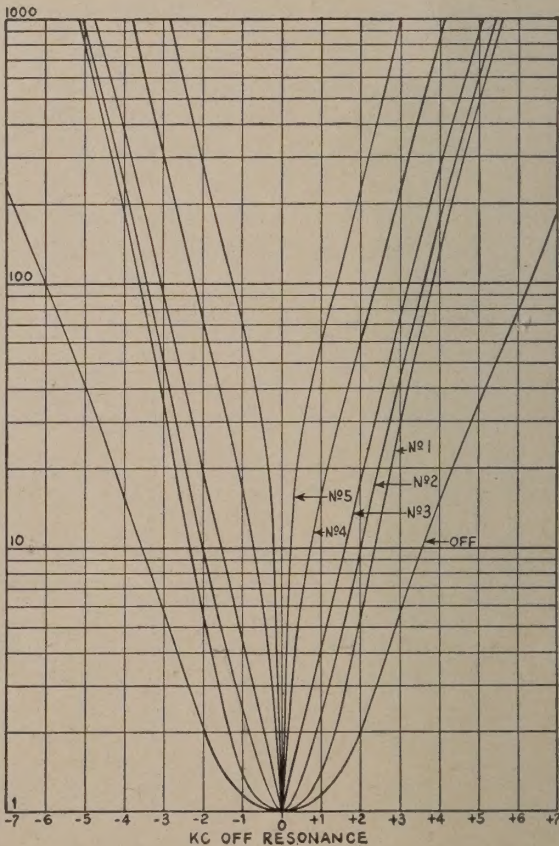
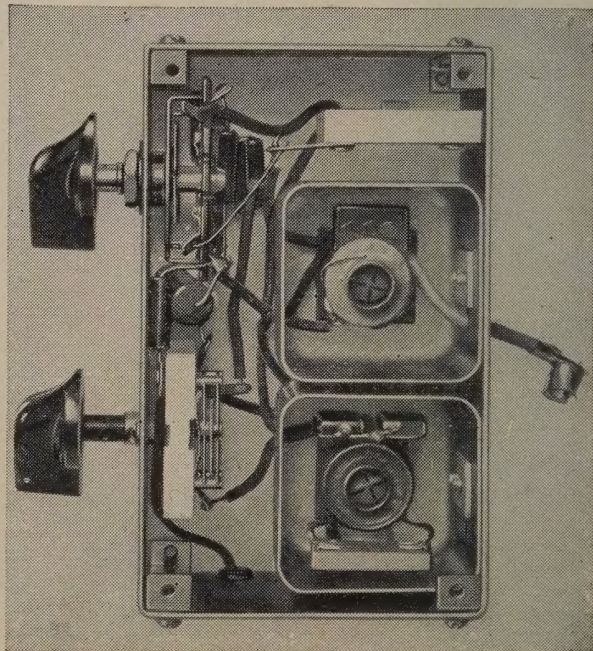

FIG. 3—Overall selectivity curves for 455 kc. I.F. amplifier and crystal filter. Labeling of the curves corresponds to the markings on the panel.
FIG. 9—Crystal filter unit
the selectivity for these settings of the selectivity control are indicated in Fig. 3. There is absolutely no interlocking of the controls in this crystal filter. The rejector or phasing control can be set to eliminate a heterodyne of some particular frequency within its range, and will not require re-adjustment when the selectivity control of the filter is changed. Also, the output, or overall gain, of the receiver is not noticeably affected by changes in selectivity of the filter. This feature is extremely desirable, especially from the standpoint of accurately determining the strength of incoming signals. It is not necessary to make allowances for usual attenuation in the crystal filter, should it be necessary to change the selectivity in order to eliminate interference. Complete is unit shown in Fig. 9.
I. F. AMPLIFIER: The intermediate frequency amplifier consists of three stages employing iron core permeability-tuned transformers. The intermediate frequency is 455 kc. which has now become the R.M.A. standard. Overall selectivity curves for the I. F. amplifier with crystal filter are shown in Fig. 3. The A.V.C. arrangement in this amplifier provides remarkably smooth operation. There is a switch for cutting out the A.V.C. and providing manual control of volume or sensitivity.